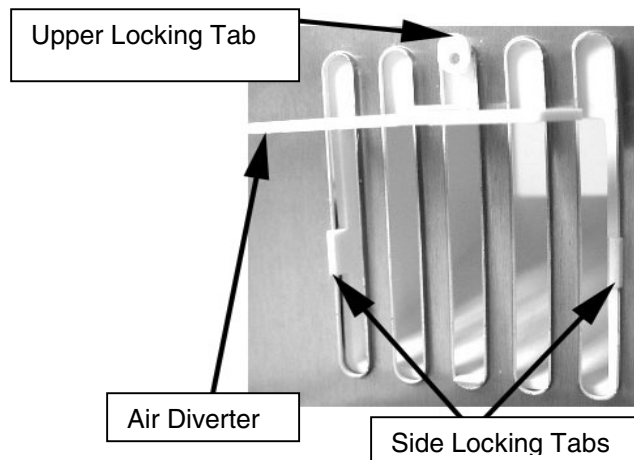

Figure 3
- Rotate the air tunnel counter clockwise 90°. Make sure the side and the upper locking tabs are locked in place behind the coil cover. (See figure 3)
Note: Figure 3 is for reference only - you do not have to remove the evaporator coil cover.